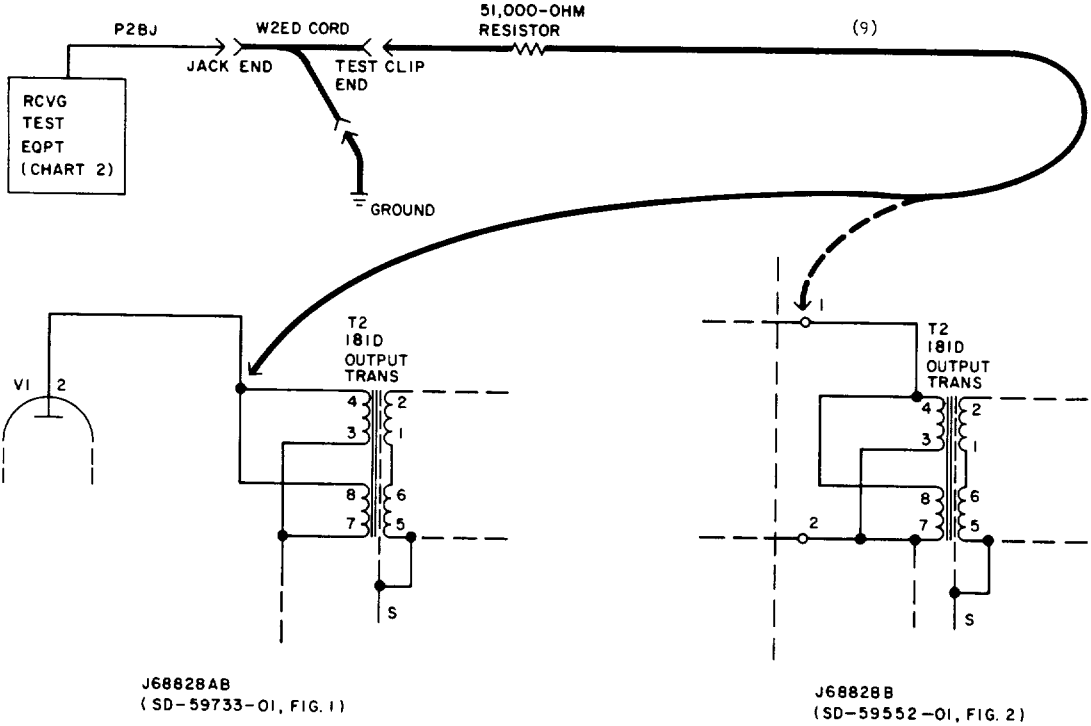

Fig. 4—Test Connections for Measurements at Output Transformer
| 23   | Connect a 51,000-ohm resistor, using a W2ED cord, between output transformer T2 and the RTE [patch (9), Fig. 4].   |